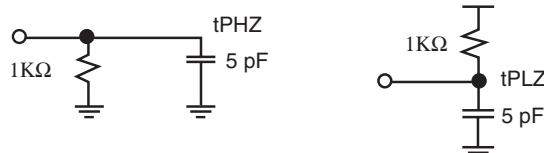

Figure 5: Loads used for tPXZ
a. These loads are used for tPXZ (see Figure 5)